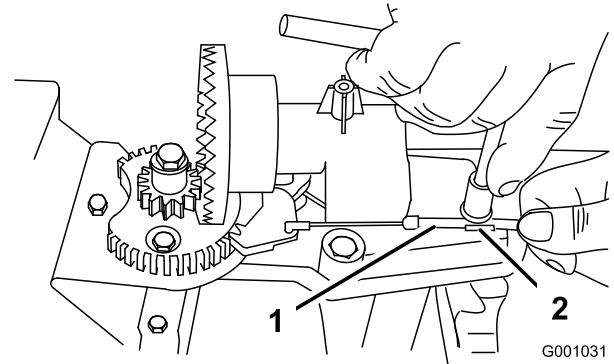
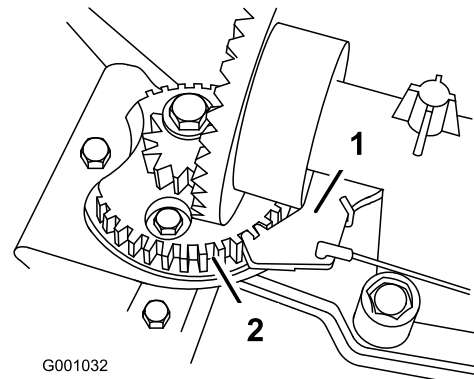

Figure 58
Figure 59
2. Loosen the bolt on the cable clamp (Figure 58).
3. Grasp the cable conduit and move it toward the front of the machine until the discharge-chute latch fully engages the gear teeth (Figure 58 and Figure 59).
Note: The latch is spring loaded and naturally moves into the teeth of the gear (Figure 59).